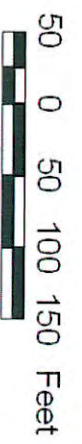

Figure 3
3. Figure 3 2920 ppm lead excavation depths